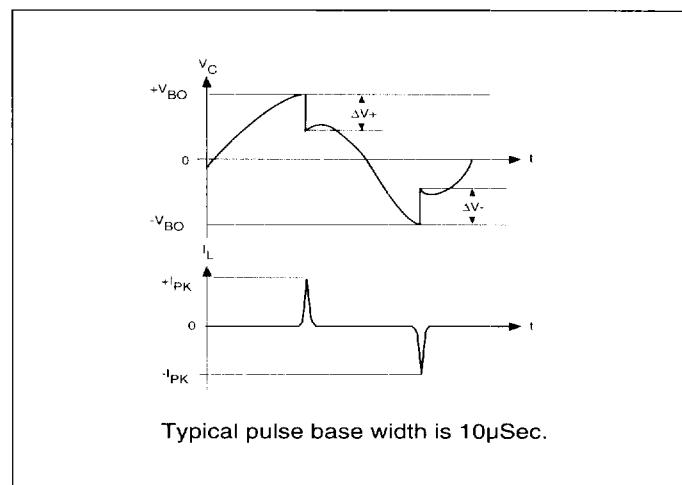
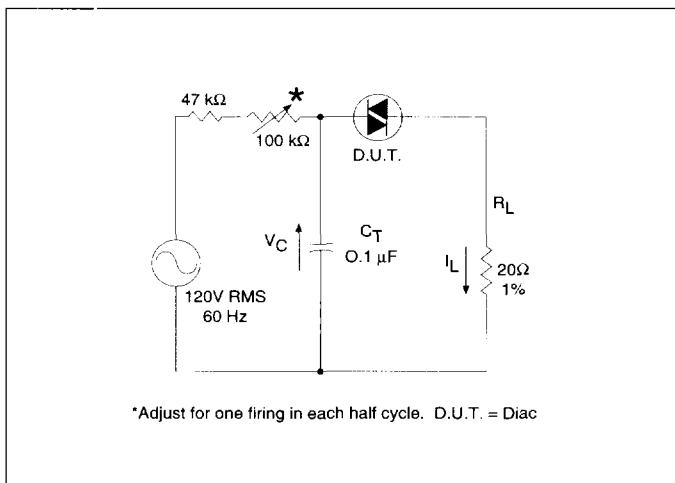

Figure 8.4 Test Circuit Waveforms (See Figure 8.5.)
Figure 8.5 Circuit Used to Measure Diac Characteristics
- See Figures 8.4 and 8.5 for Test Circuit and waveforms.
- Typical switching time is 900 nano-seconds measured at  $I_{PK}$  (see Figure 8.4) across a  $20\Omega$  resistor (see Figure 8.5). Switching time defined as rise time of  $I_{PK}$  between the 10% to 90% points.
(See Figure 8.4.)